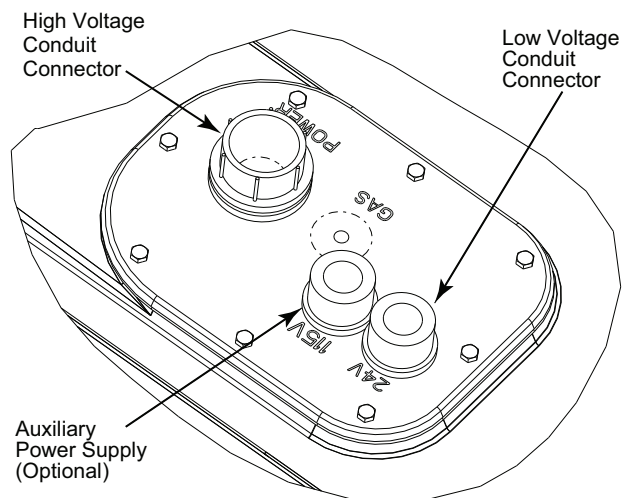

Fig. 27 — Thru-Base Connection Fittings
The 3/4 in. bulkhead connector enables the low-voltage control wires to pass through the basepan. The 1/2 in. bulkhead connector allows the high-voltage power wires to pass through the basepan. See Fig. 27.
3. Place the gasket over the embossed area in the basepan, aligning the holes in the gasket to the holes in the basepan. See Fig. 27.